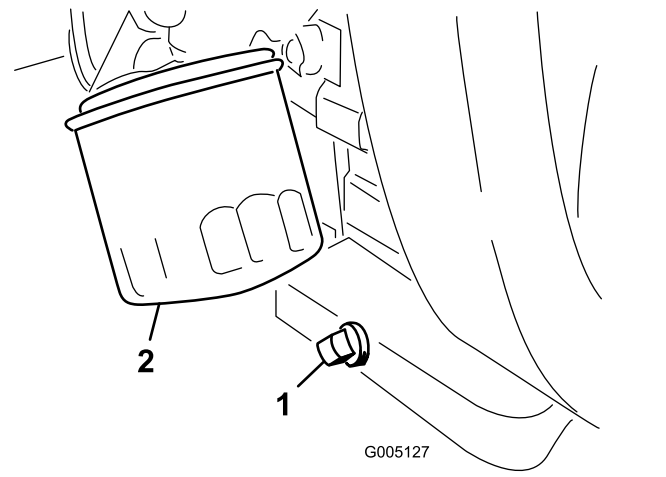

Figure 34
1. Remove the drain plug (Figure 34) and let the oil flow into a drain pan.
2. Clean the threads of the drain plug, apply PTFE sealant, and install the drain plug (Figure 34).
- Remove the oil filter (Figure 34).